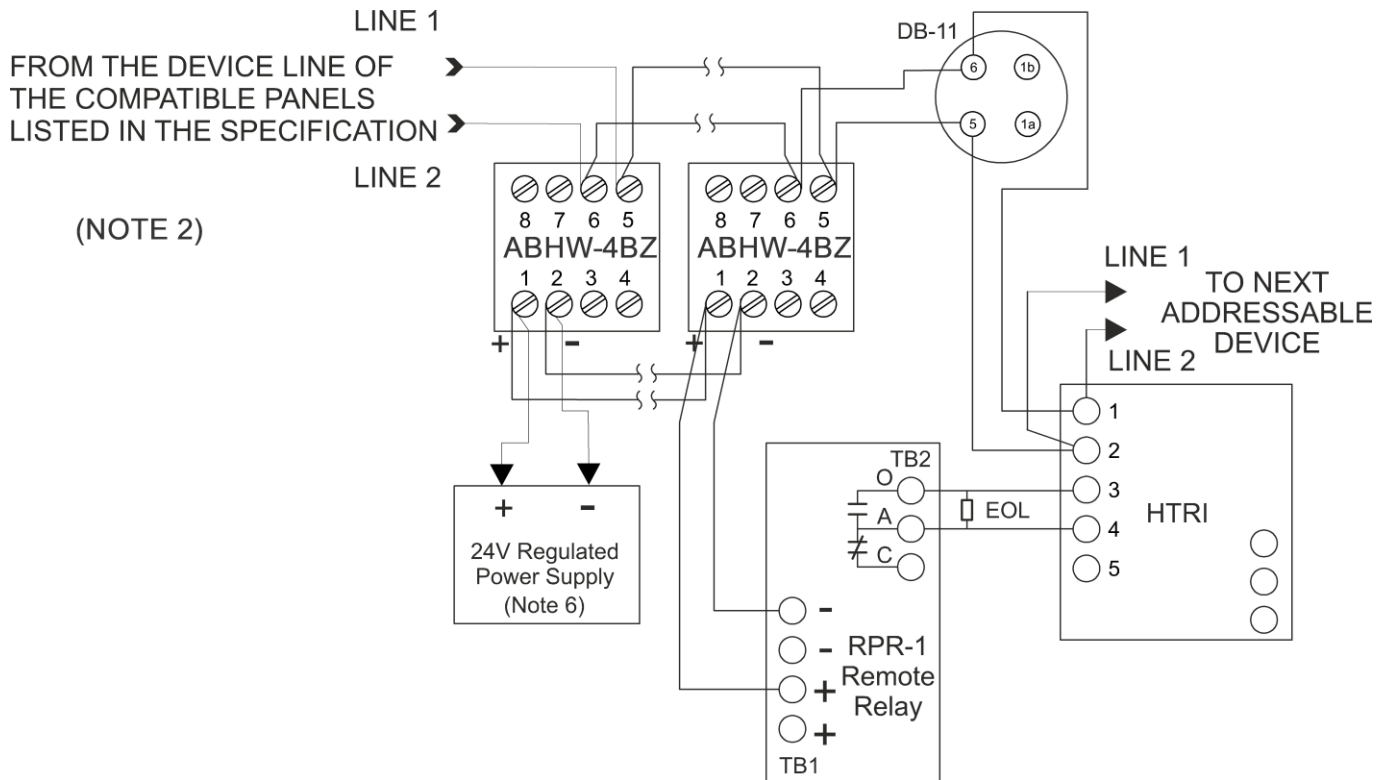

Fig. 3: Typical Non-Isolated Installation/Wiring Diagram for ABHW-4BZ Audible Base Powered by 24V Regulated Power Supply
1. If the alarm current of ABHW-4B is energized by an external power supply, any UL listed 24 VDC regulated power supply including the aux power output of FireFinder-XLS/Desigo Fire Safety Modular/Cerberus PRO Modular, FC2005/FC901, FC2025/FC2050/FV2025/FV2050, FC922/FC924/FV922/FV924 and PAD-3/PAD-4/PAD-5 can be used (refer to Figure 3); or a 24 VDC NAC, such as PAD3/PAD-4/PAD-5 (refer to Figure 6), ZIC-4A (FireFinder-XLS/Desigo Fire Safety Modular/Cerberus PRO Modular zone indicating card (NAC), refer to Figure 5) and NAC from FC2005/FC901 (refer to Figure 7) or NAC from FC2025/FC2050/FV2025/FV2050, FC922/ FC924/FV922/FV924 (refer to Figure 8).
Figure 3 and 4 Notes: